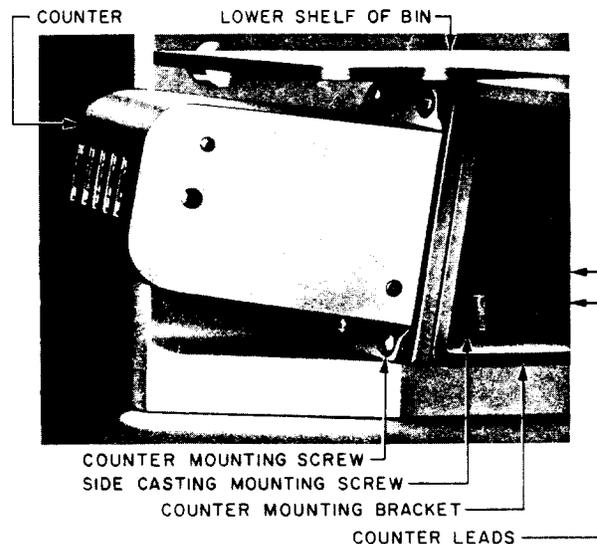

Fig. 8 — Counter Mounted on Tool
7. MOUNTING COUNTER — Fig. 8 and 9
7.01 Position the counter on the mounting bracket provided for it, as shown in Fig. 8, so that the numerals may be read from left to right. Using the 3-inch C screwdriver, mount the counter in this position using the mounting screws furnished with the counter. Then, using lengths of 2 and 4-1/2 feet, splice KS-13385 single-stranded wire having white- and orange-colored insulation, respectively, to the leads of the counter. Tape each splice.
7.02 Remove the lower shelf of the left bin using the R-2959 wrench. Then, using the R-2486 wrench, remove the side casting mounting screw located on the table below the shelf. Using this screw, mount the counter on the table as shown in Fig. 8. Remount the shelf.